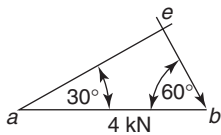
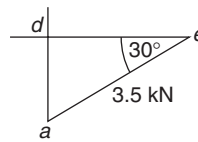

Figure 4.16
Figure 4.17
Consider joint *ABE*, as there are only two unknown forces here, namely the forces in the members *BE* and *EA*. Working clockwise around this joint, the vector diagram for this joint is shown in Figure 4.16. By measurement,  $ae = 3.5$  kN and  $be = 2.1$  kN.
Joint (2) cannot be considered next, as it has three unknown forces, namely  $H_2$ ,  $R_2$  and the unknown member force *DE*. Hence, joint (1) must be considered next; it has two unknown forces, namely  $R_1$  and the force in member *ED*. As the member *AE* and its direction can be obtained from Figure 4.16, it can be drawn to scale in Figure 4.17. By measurement,  $de = 3$  kN.
As  $R_1$  is vertical, then the vector *da* is vertical, hence, the position *d* can be found in the vector diagram of Figure 4.17, where  $R_1 = da$  (pointing downwards). By measurement,  $R_1 = 1.8$  kN.
this diagram is the sum of the vector diagrams of Figures 4.16 to 4.18.